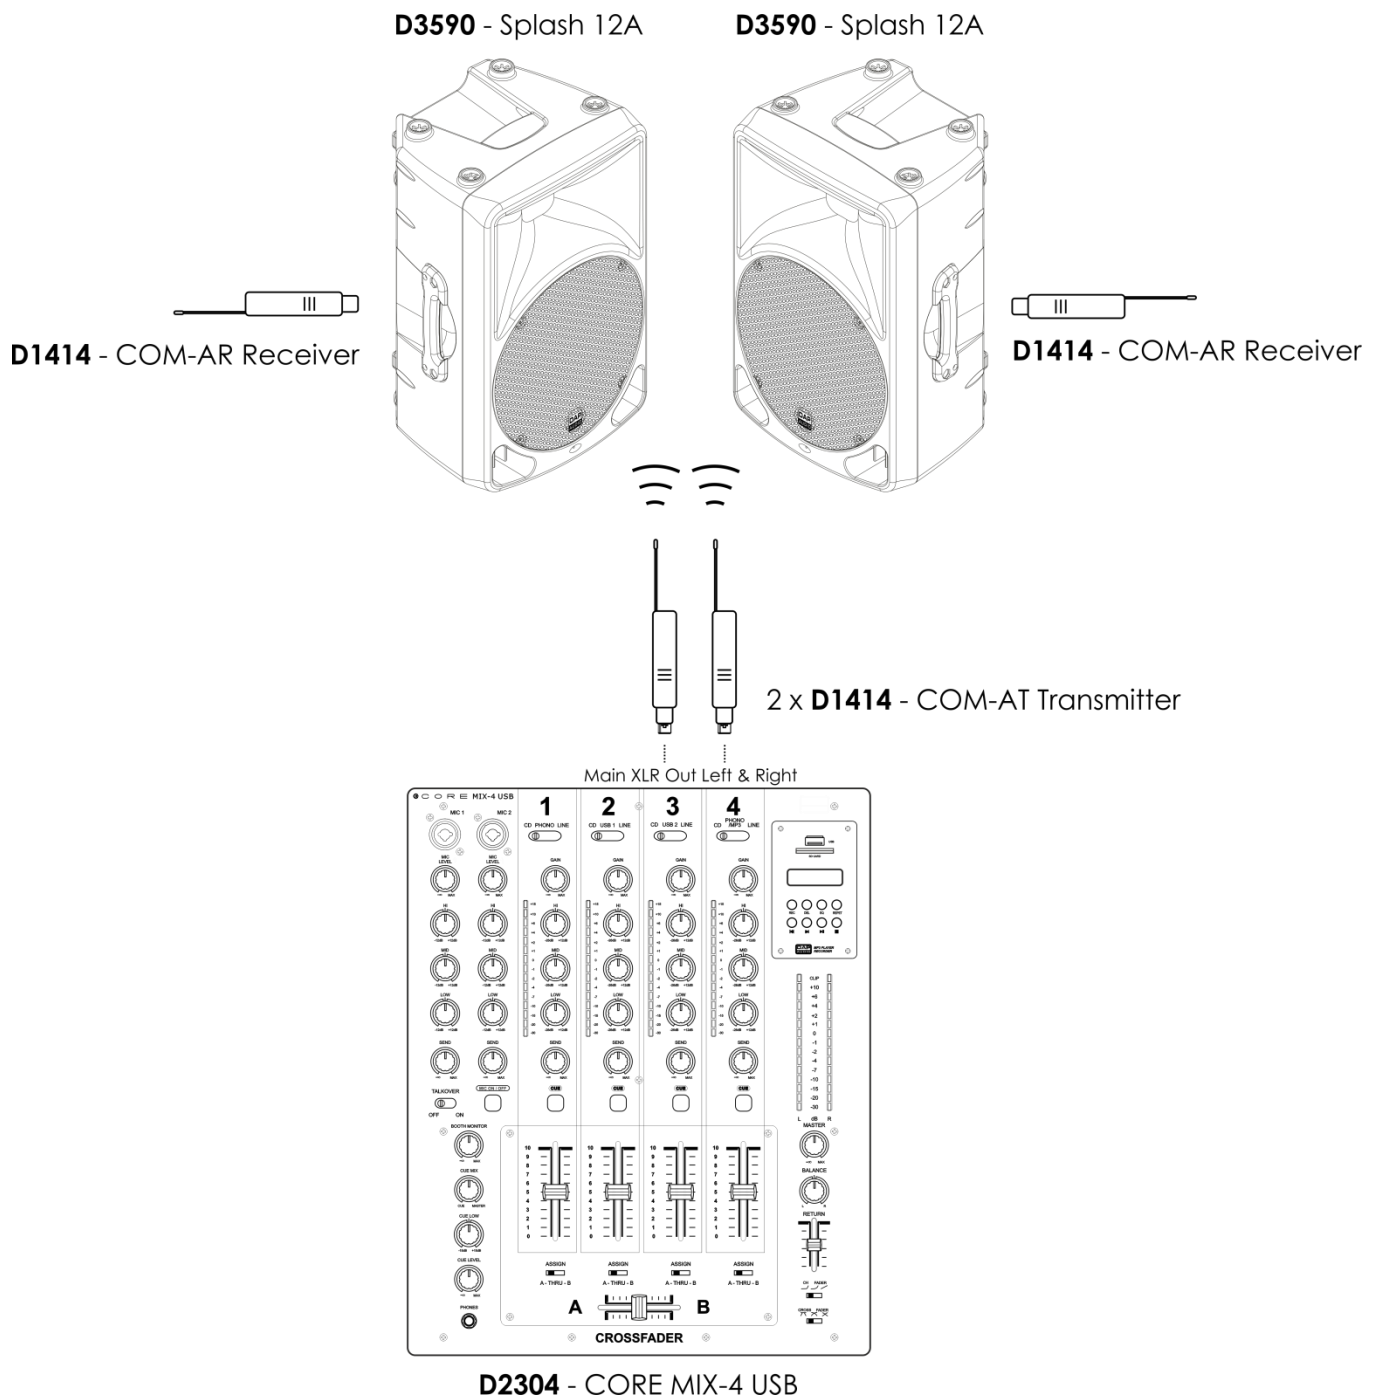

Fig. 04
**Note:** In order to produce stereo sound, it is necessary to purchase **2 sets** of **D1414** (see fig. 04).